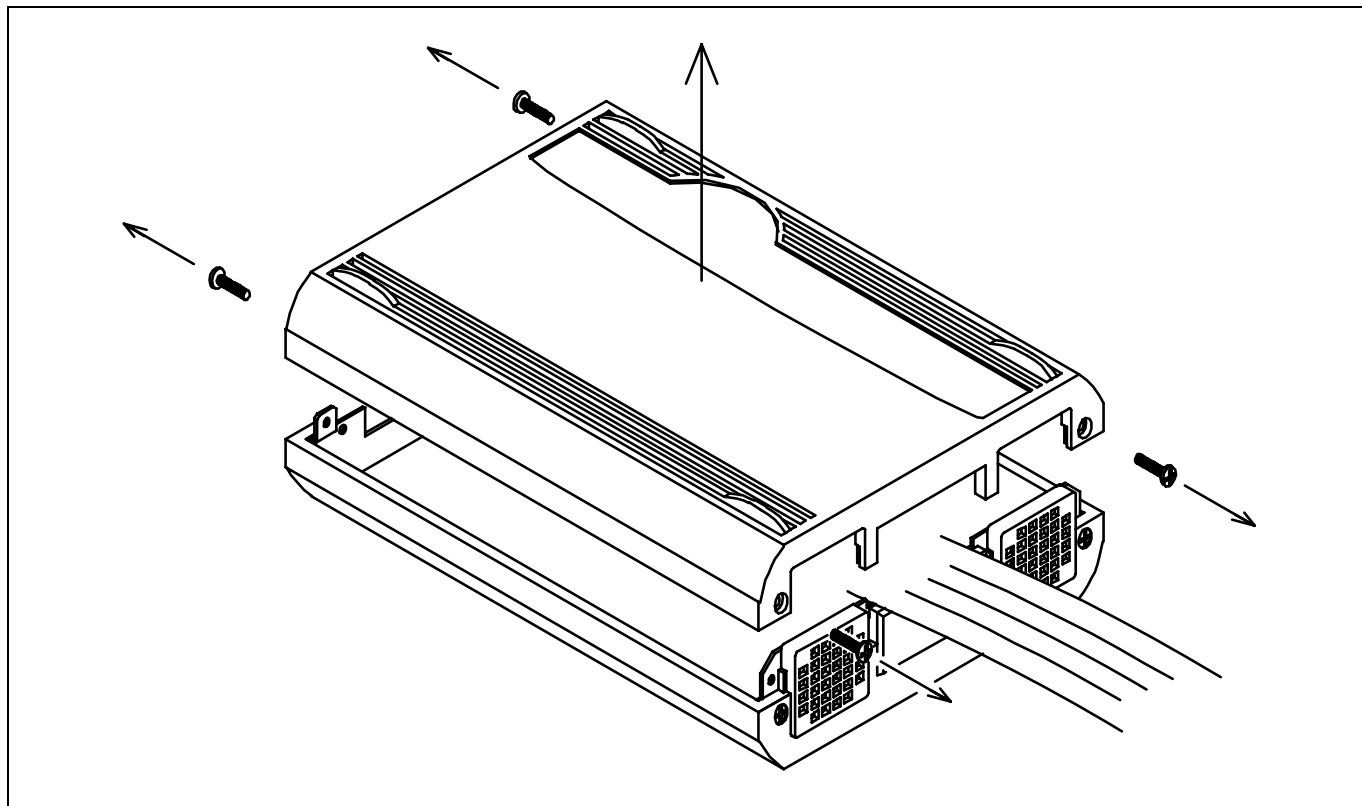

Figure 2.18 Removing the upper cover
1. Remove the four screws of both sides of this product and lift off the upper cover (see Figure 2.18).